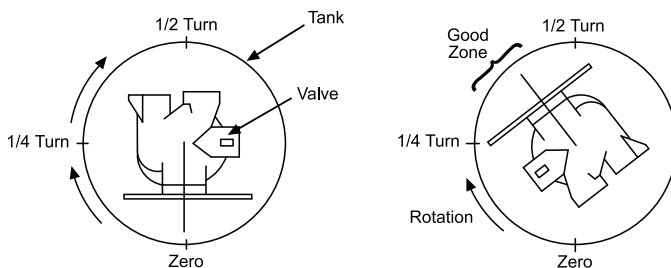

Figure 6
3. Rotate the valve clockwise from zero, between ¼ turn and ½ turn (see Figure 6).